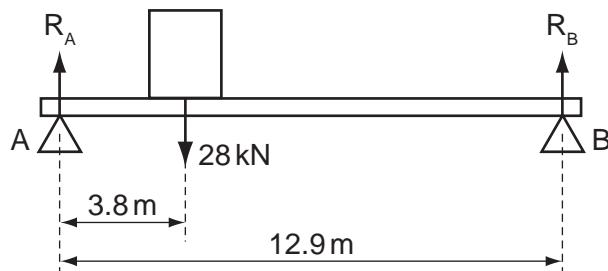

Fig. 11
- (e) Fig. 11 shows a diagram of a simply supported beam.